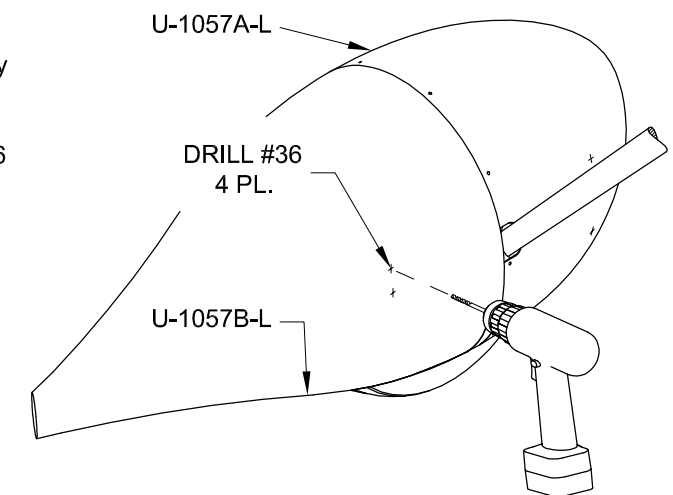

FIGURE 3: DRILLING THE FAIRINGS AND BRACKETS
Step 3: Shim between the fairings and the tire to keep the fairing from moving while drilling. Working from the inboard side of the U-1057A Wheel Fairing Front and U-1057B Wheel Fairing Rear sight through the translucent fairing and locate the "sharpie" pen marks. Drill the fairings and bracket at the four nutplate locations as shown in Figure 3.